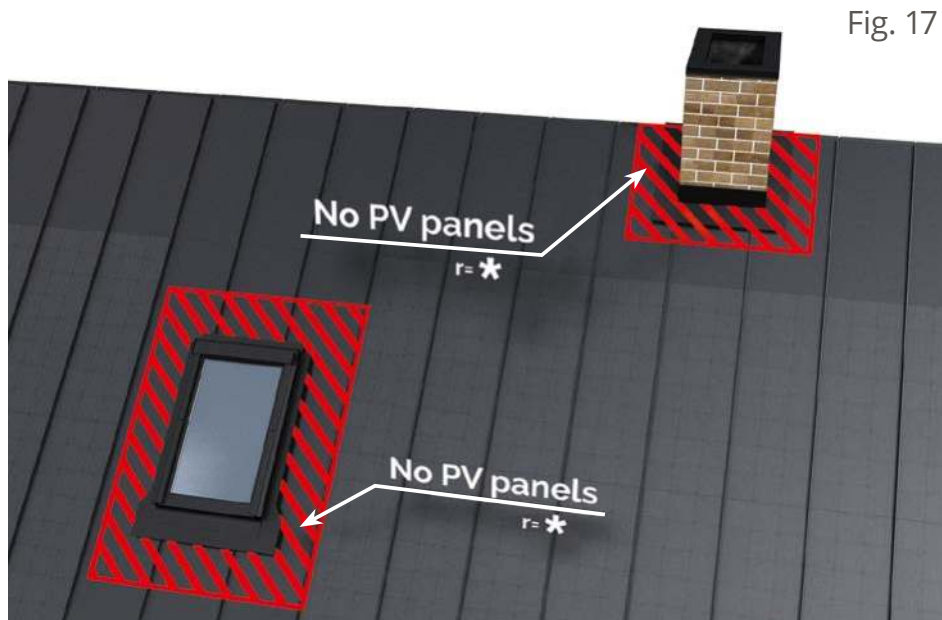

Fig. 17
**These values may vary for each roofing material supplier. Consult a local roofing specialist to get your accessories dimensions before designing the PV system (Fig. 17).**